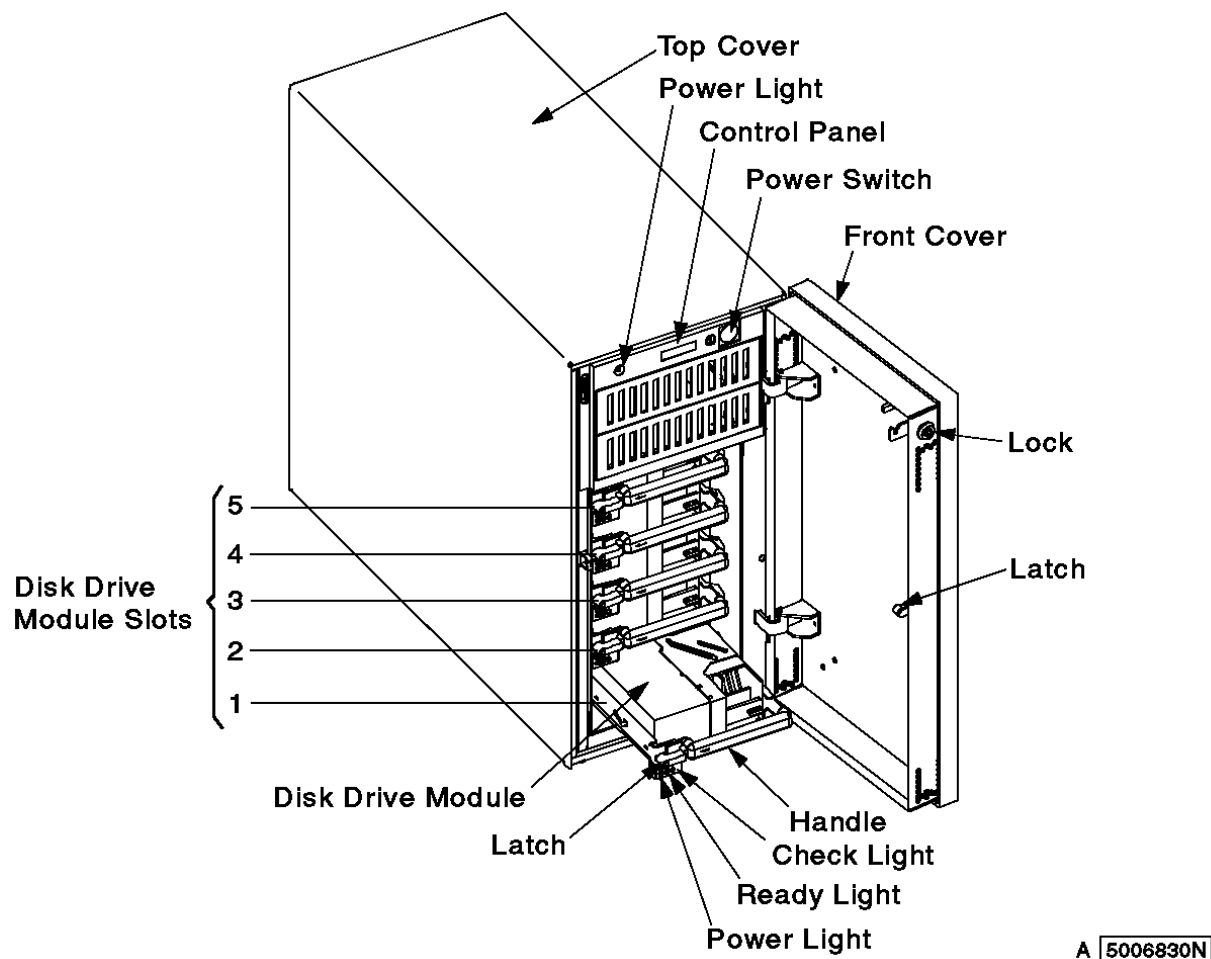

Figure 21. Front Cover and Interior of the 3527 Storage Unit
- 3.** Open the front cover (Figure 21).
14. Close the front cover (Figure 21 in topic 6.5).